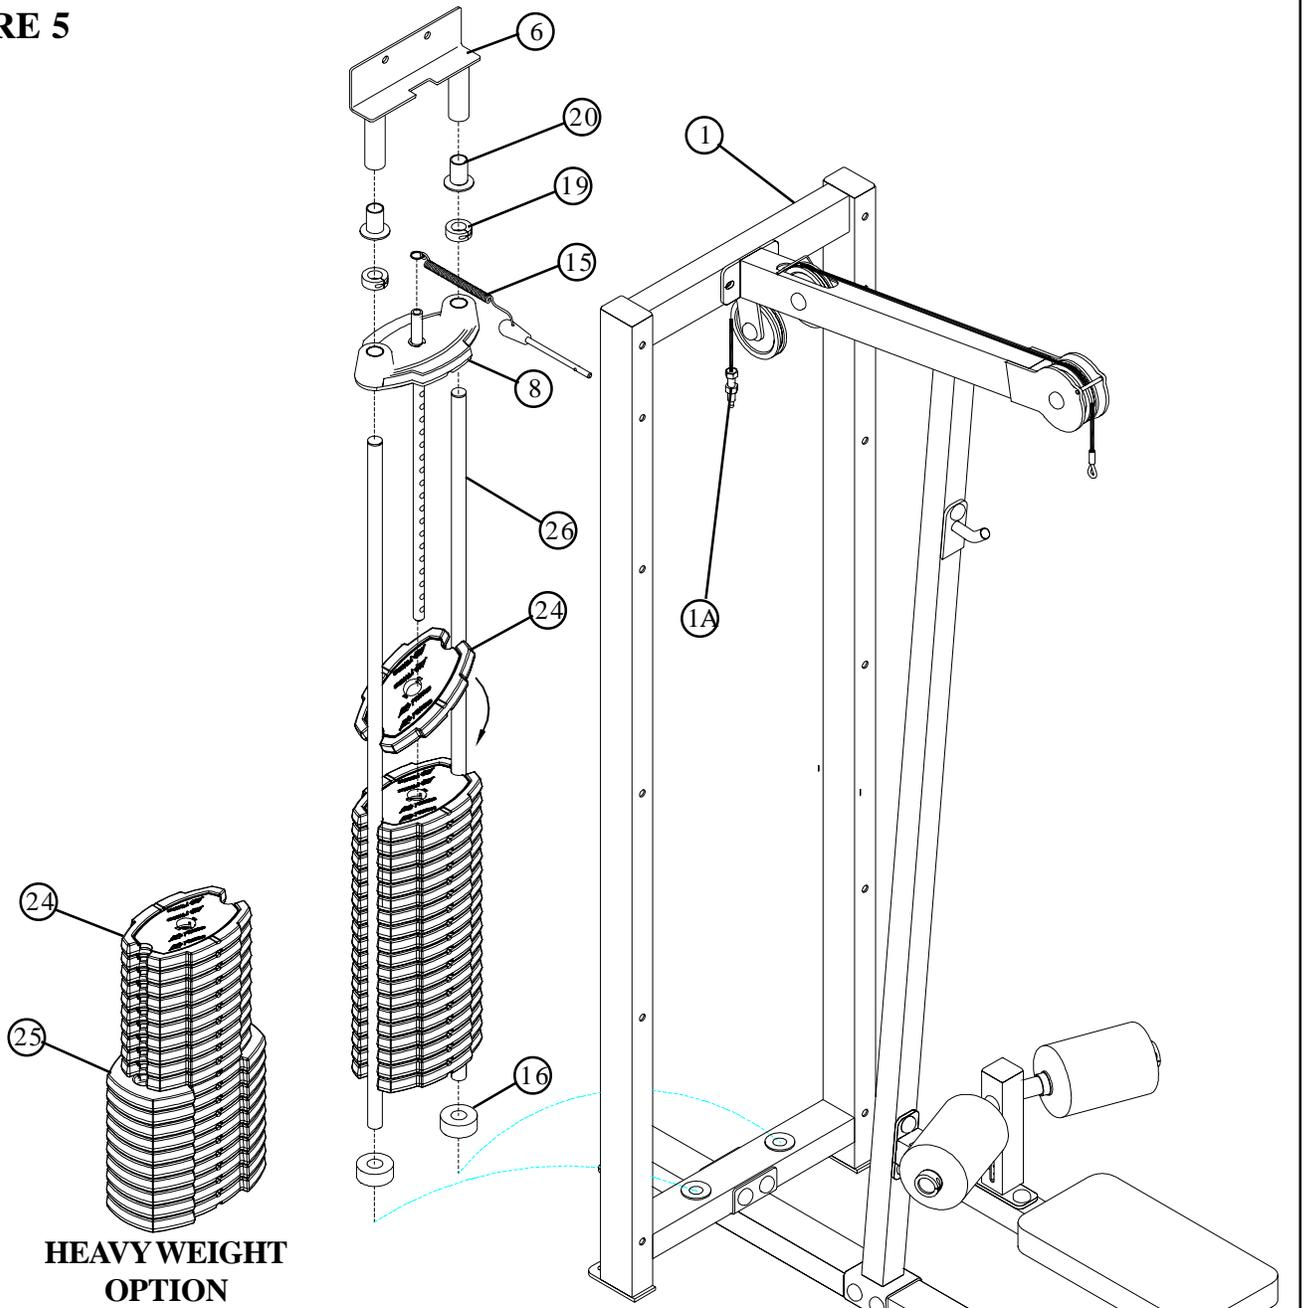

**FIGURE 4**
- **SECURELY** assemble the SEAT PAD (18) to the BENCH FRAME (3) using two RH CAPS (27), two 3/8 X 2-3/4" BOLTS (9) and two 3/8" RH WASHERS (14) as shown in FIGURE 4.